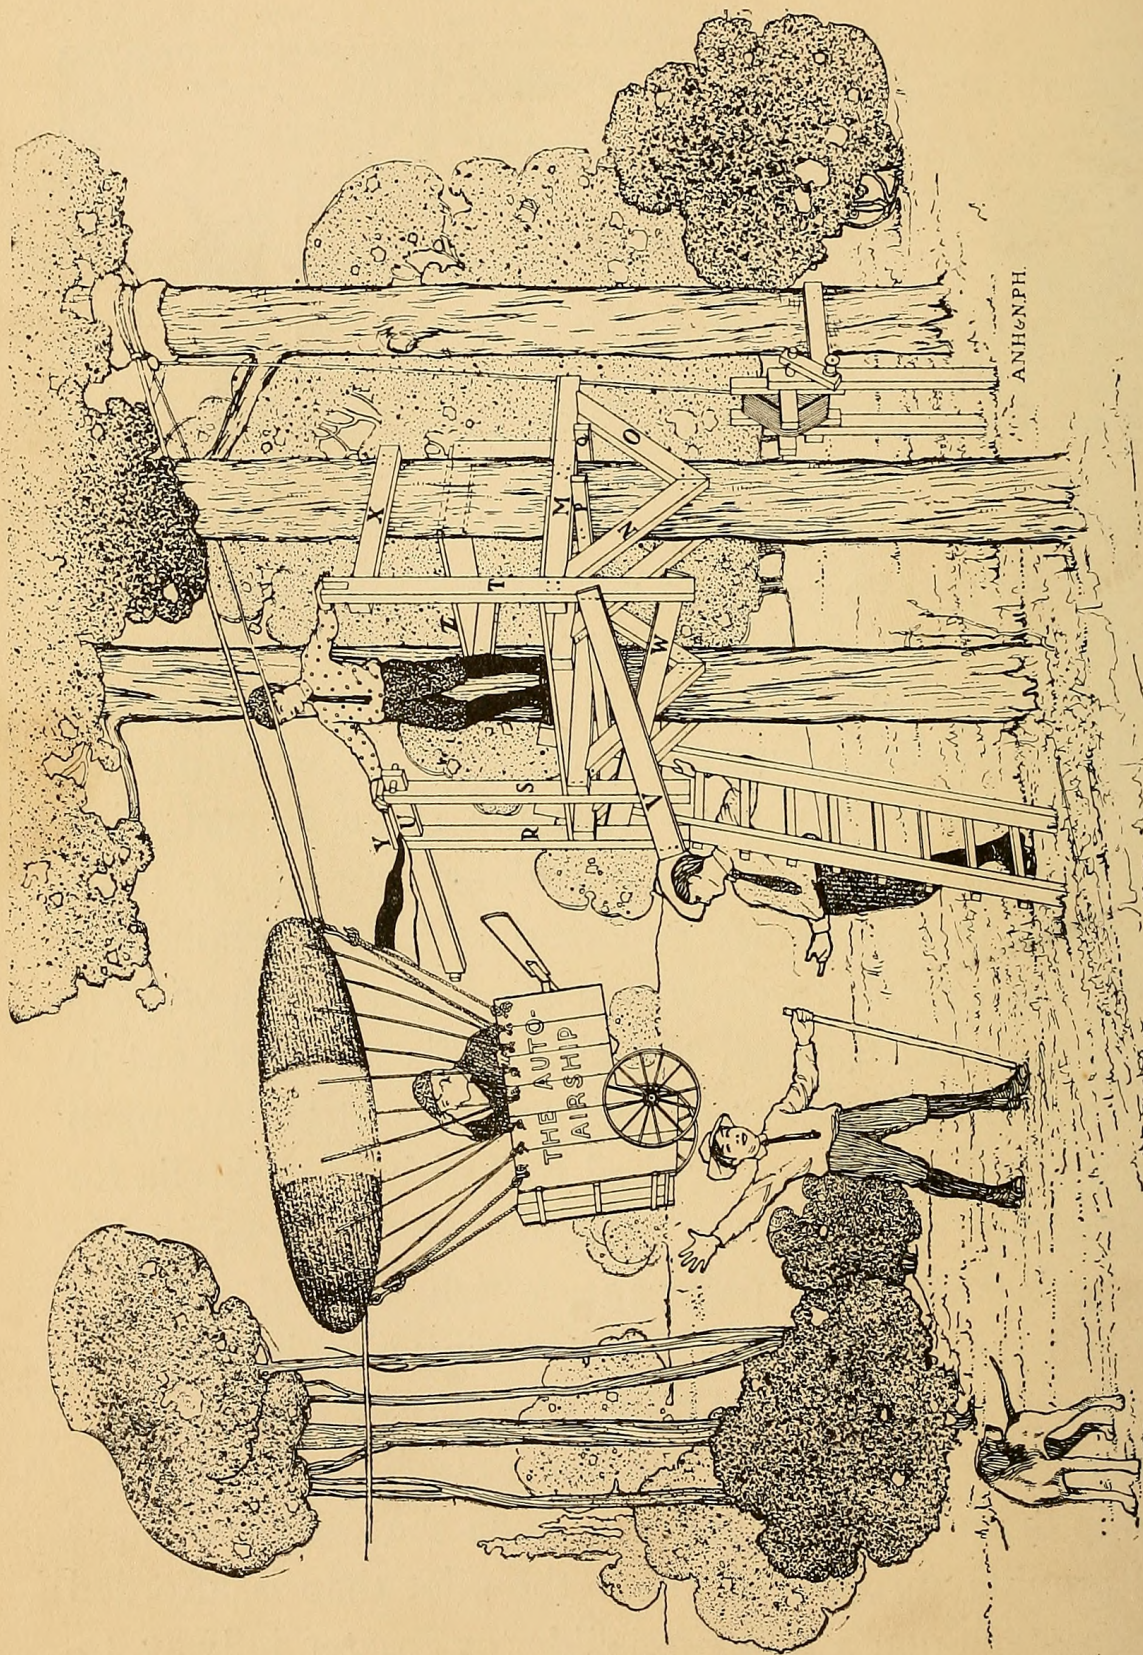
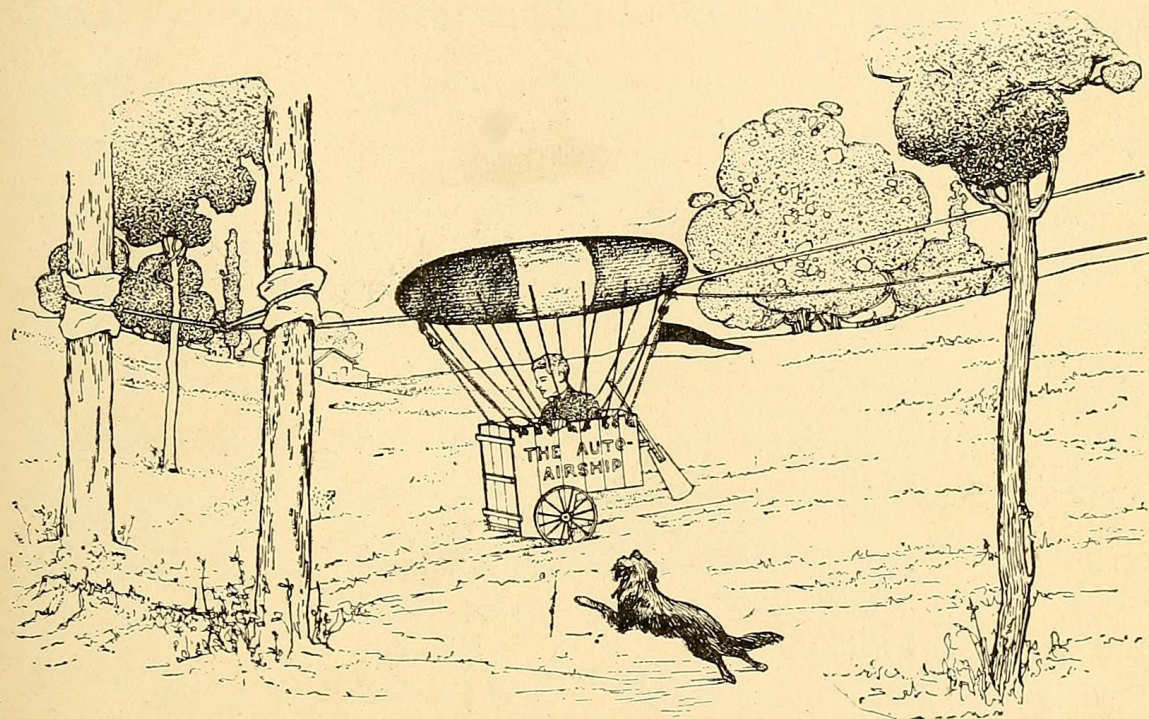

FIG. 405. — The Auto-airship in Flight.
FIG. 406. — Making a Landing.
gether with many of the thrills of flying. As you will see by looking at Figs. 405 and 406, the rope cable along which the airship flies is hung low enough to keep the
Put the cloth on lengthwise of the framework in two strips, stretch it as smooth as possible, and fasten it to the ribs with tacks and to the rib-bands with thread. On top of the envelope sew a band of white cloth around the center of the balloon (Fig. 405).
**A Starting Platform** just high enough to lift the car off the ground, but if the ground is level, or nearly so (Fig. 405), it will be necessary to construct a platform 8 feet or so above the surface to give the rope cable sufficient pitch.
This platform is built between two trees, 3 or 4 feet apart, and is supported by four brackets. Each bracket consists of three pieces of 2-by-4, as you will see by looking at Fig. 405. Cut the piece marked *M* 4 feet long, and *N* and *O* 2 feet 6 inches long; miter the lower ends of *N* and *O*, and let their upper ends into *M*. Nail the pieces together and spike two brackets to each tree; then spike crosspieces *P* and *Q* across the trees, directly under top piece *M* of the brackets, as additional supports. Cut the railing uprights *R*, *S*, and *T* 5 feet long, mortise the upper ends for the gate (*U*) to slide through, and spike them to the brackets. Brace the lower ends with the diagonal pieces *V* and *W*, and their upper ends with boards *X* and *Y*. Cut the gate (*U*) long enough to reach from *R* to *T*, insert a short stick in a hole bored near one end, for a handle, and nail a strip across the other end to prevent it from pulling
**The Rope Cable.** Purchase  $\frac{3}{4}$ -inch Manila rope for the cable, and get whatever length you will require in one piece. Fasten one end of this rope to a tree a few feet in back of the upper station platform (Fig. 405), then run it through the single blocks in the balloon framework, and while you pull on the rope to take up as much of the slack as possible, have some one tie the lower end to the center of a rope stretched between two trees at the lower end of the airship's course (Fig. 406). If there doesn't happen to be a tree directly in back of the upper station, you can attach that end of the rope between two trees, in the same way that you fastened the lower end. Tie the lower end of the rope low enough so the car will run upon the ground for a few feet, and slow up, before reaching the end. Throw some loose earth over the point of landing, and from there as far as the end of the rope, to retard the speed of the wheels.
**To attach the Car,** hitch the loops of the suspension stays over the block hooks (Fig. 405), and tie the ends of the intermediate stays through the holes in the sides of the car.
attach a strong cord to the hook in the stern block, run it through a small pulley attached to the upper end of the cable (Fig. 405), and bring it down below the platform to a windlass constructed as shown in the illustration.